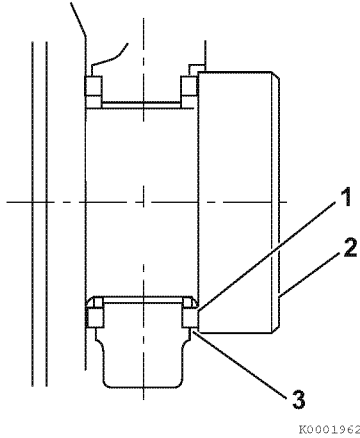

Figure 6-58
- **Method B:** Use a feeler gauge to measure the clearance (3, **Figure 6-58**) between the thrust bearing (1, **Figure 6-58**) and crankshaft (2, **Figure 6-58**). Record the measurement. See *Thrust Bearing* on page 6-9 for the service limit.